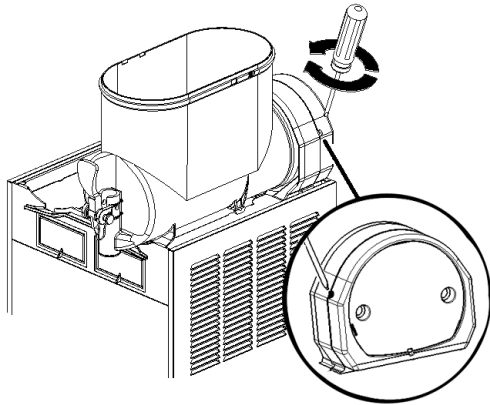

figure 3
With reference to figure 3 dispenser controls functions are as follows:
- 1 **Granita viscosity adjustment:** proper Granita viscosity is factory preset. To change the viscosity, if needed, use a standard screwdriver to turn the adjustment screw located in the rear wall of each container as follows (see figure 3):